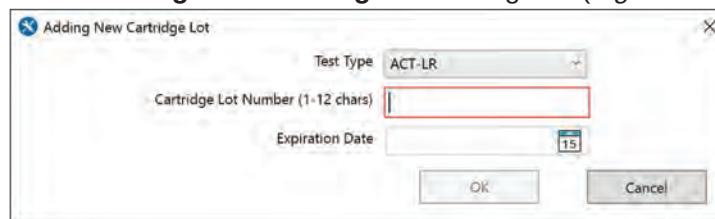

Figure 101: CCM – Adding New Cartridge Lot
- 2 Click **New**. The **Adding New Cartridge Lot** dialog box (*Figure 101*) is displayed.